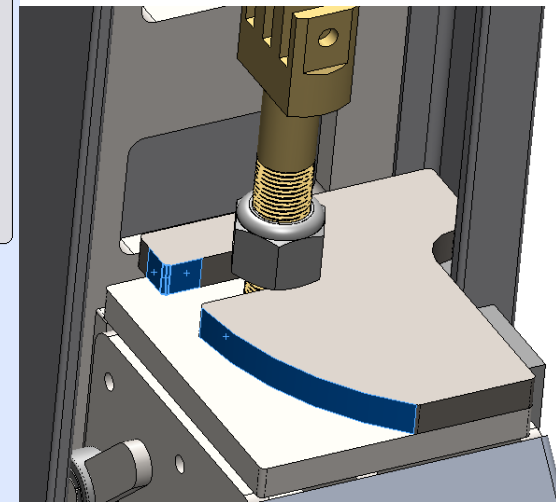

Figure 13
23. With the lift side stop plate in position, weld around the highlighted edges shown in *Figure 13* for the front lift side cross-beam and the rear lift side cross-beam.